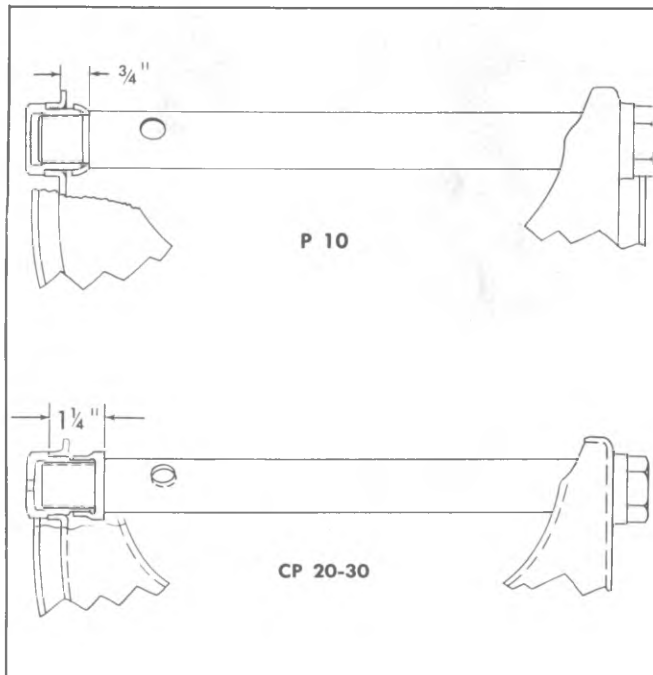

Fig. 3C-20--Positioning L.C.A. Shaft (Steel Bushings)
3. Start new bushings on shaft and into control arm. Adjust shaft until it is centered in control arm, then turn bushings in and torque to specifications. Check shaft for free rotation. Figure 3C-20 shows correct final positioning of shaft.